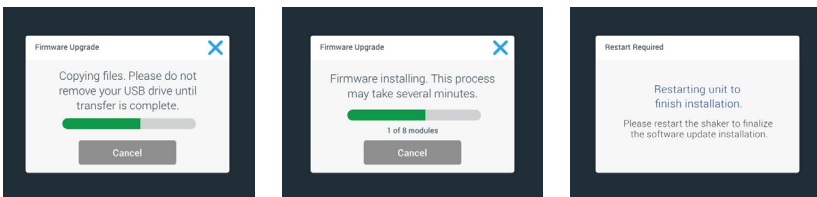

Figure 123: Firmware Upgrade Install Messages
15. Various messages appear to inform you about the progress of the installation, as shown in Figure 123.